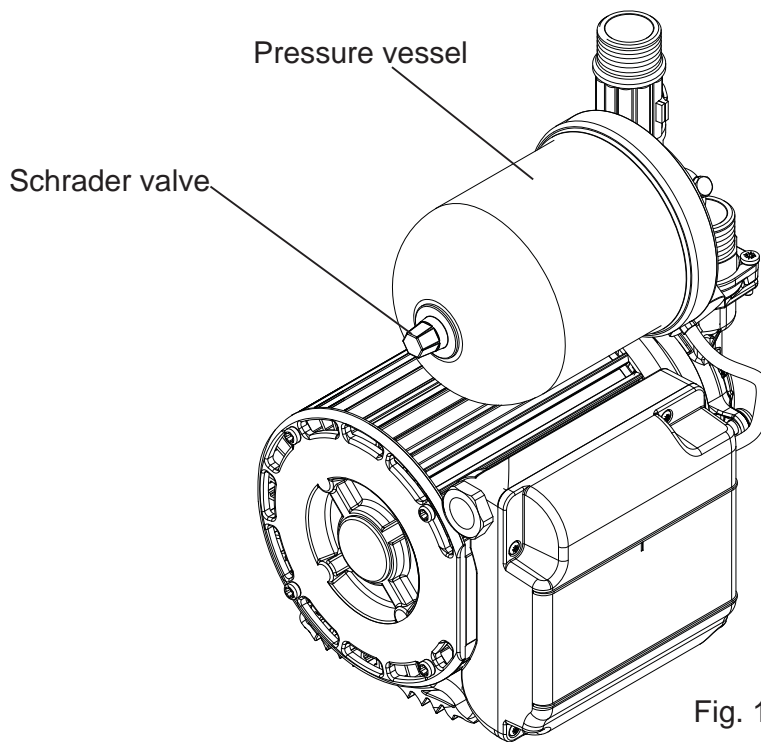

Fig. 18
- d) Check air pre-charge at Schrader valve (Fig. 18) using a tyre pressure gauge.